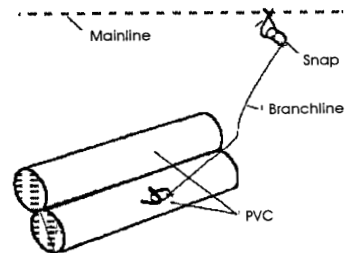

Figure 4
- baskets, which are enclosed traps and pots usually with a structure to make escape difficult; they include pots made of wood, wire or plastic, conical and drum-like traps made of netting with hoops and frames (e.g. drum nets) and box-like traps made with strong frames (Figures 4, 5 and 6);